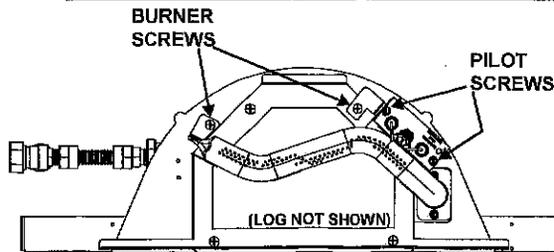

Figure 1.
3. Remove the lava rock, clear rocks, logs and burner. Remove the burner and log by removing the two screws at the right side of burner holding the pilot bracket. Then remove two screws holding the burner with logs on far right and left corner of the burner. (see figure 1)